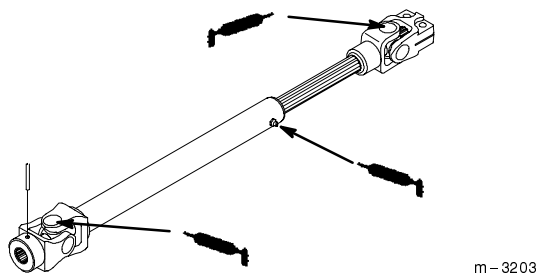

Figure 66
- Grease the fittings on drive shaft and universal joints (Fig. 66).